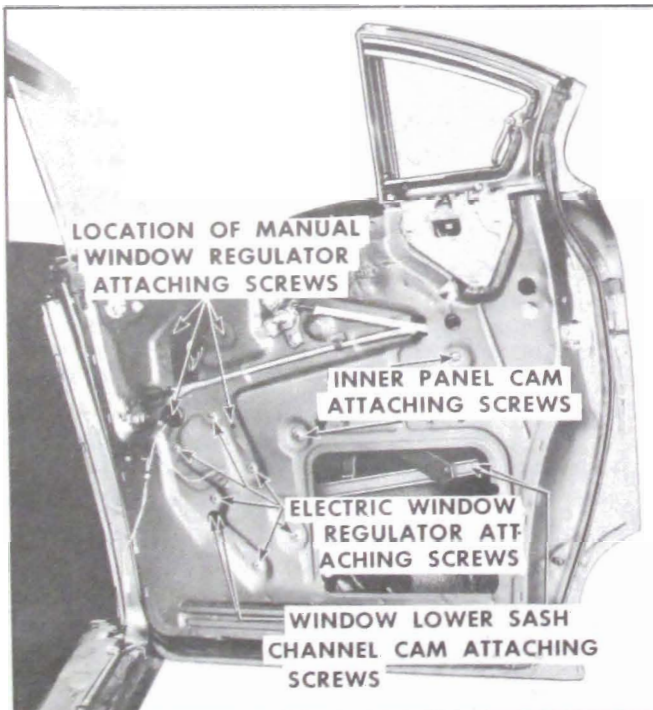

Figure 13-226—Rear Door Regulator Removal
2. Remove window lower sash channel cam attaching screws. See figure 13-226. Disengage window assembly from sash channel cam; then lift window assembly and prop in up position. Detach sash channel cam from regulator arms and remove cam from door.
3. Remove inner panel cam attaching screws. See figure 13-226. Detach cam from regulator arm and remove from floor.